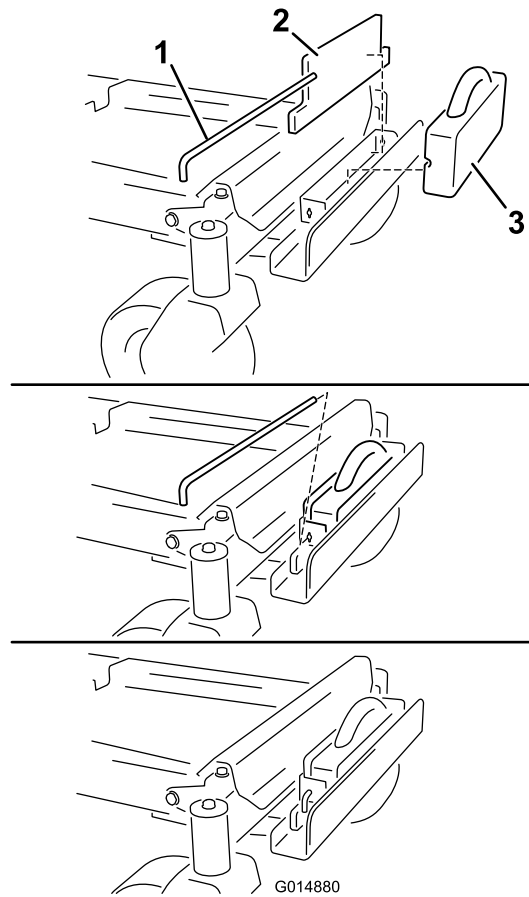

Figure 7
- Install a flat weight to the holding bracket and move it rearward, flush with the bracket (Figure 7).
- Install a suitcase weight in front of the flat weight (Figure 7). The groove in the suitcase weight should be facing rearward.
- Secure the weights to the bracket with a keyed cross bar (Figure 7). Install the bar and rotate it 90 degrees downward to lock it in place.